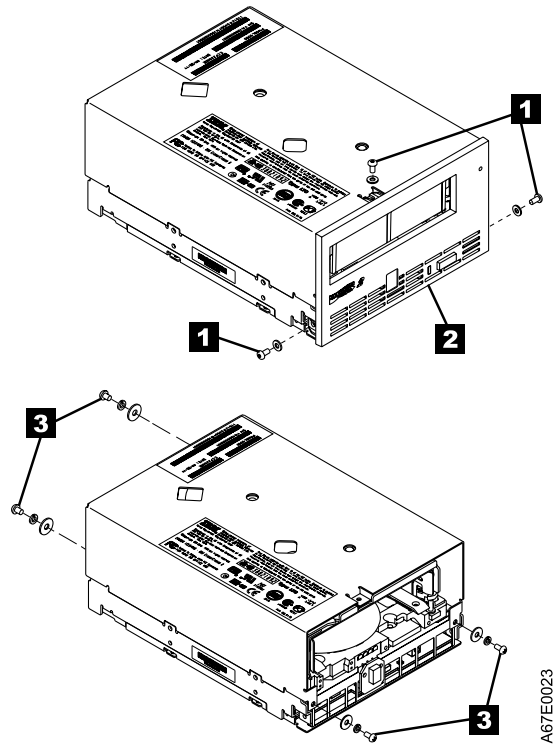

Figure 31. Removing the top cover of the drive
- a. Use an appropriate tool to remove the three screws and washers (see **1** in Figure 31 on page 89) that secure the bezel **2**. Remove the bezel.